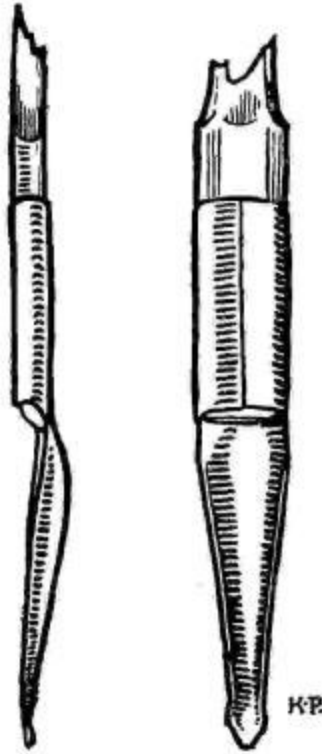

FIG. 69.
Meanwhile here is another little tool (fig. 69), the invention of one of my youngest "hands" (and heads), and really a praiseworthy invention, though indeed a simple and self-evident matter enough. The usual tool for waxing-up is (1) a strip of glass, (2) a penknife, (3) a stick of wood. The thing most to be wished for in whatever is used being, of course, that it *should retain the heat*. This youth argued: "If they use copper for soldering-bits because it retains heat so well, why not use copper for the waxing-up tool? besides, it can be made into a pen which will hold more wax."